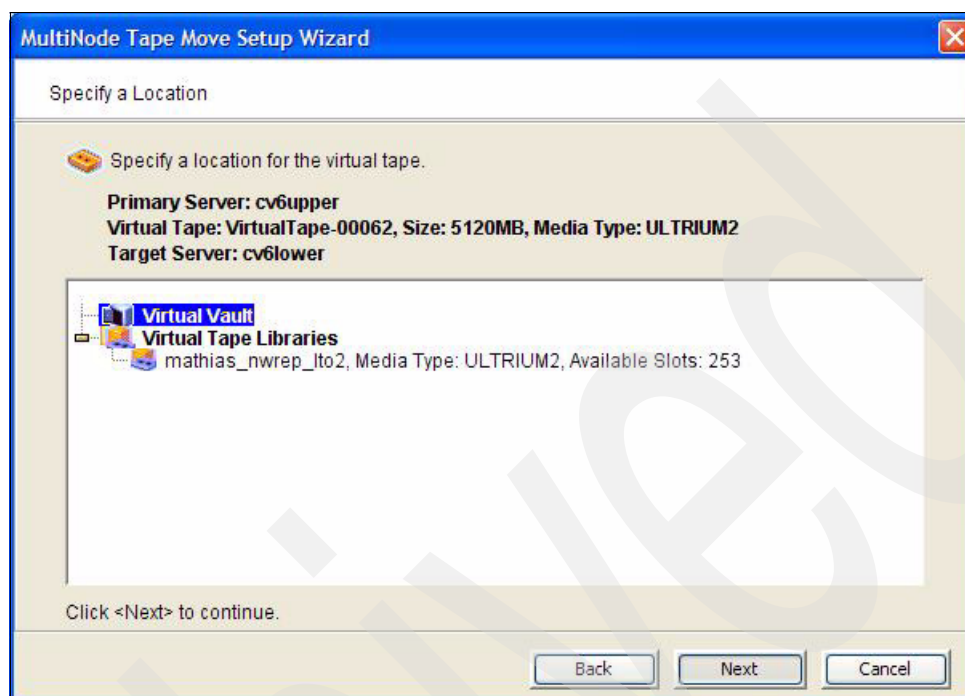

Figure 12-36 Selecting source location for the virtual tape
- The next window (Figure 12-36) is optional. By default the virtual tape is moved back to the virtual vault of the source TS7530 node. However, you can select the virtual library where you want to assign the virtual tape.